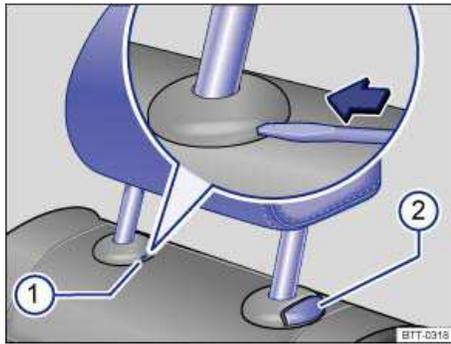

Fig. 51 Removing the rear head restraints.
- If necessary, press the flat blade of the screwdriver from the vehicle tool kit into the slit of the trim cap ⇒ fig. 51 \(1\) in the direction of the arrow and hold it in this position.
- At the same time press button (2) while a second person pulls out the head restraint completely.